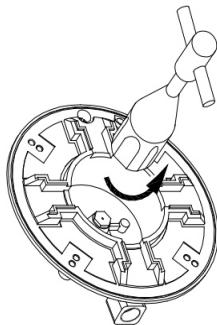

Fig.1
- With the aid of a 7mm box spanner the burner injectors can then be unscrewed and replaced by the appropriate injectors (provided). (Fig.1)